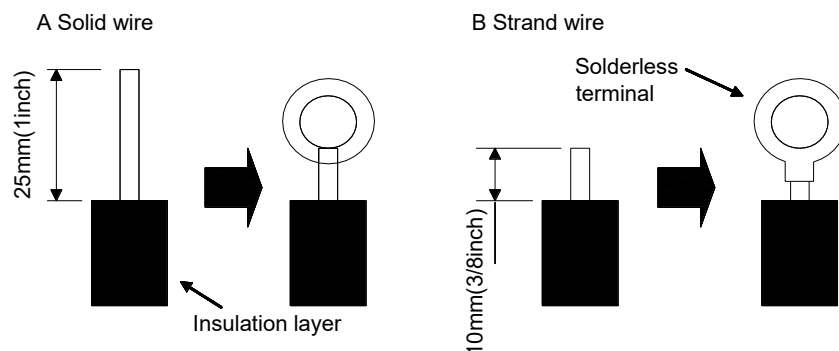

Figure 3-4-1
### (1) For solid core wiring (Figure 3-4-1)
### (2) For strand wiring (Figure 3-4-1).